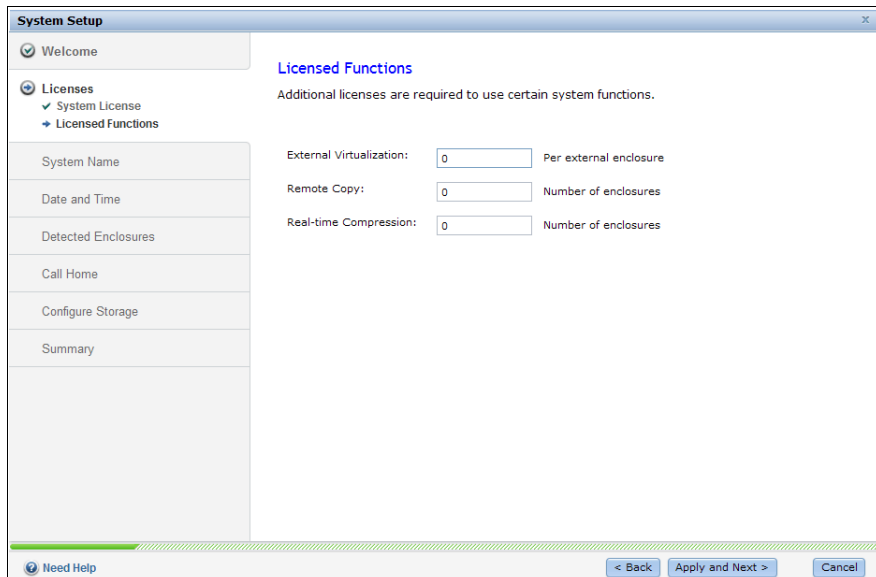

Figure 4-16 Setup wizard - Set additional licenses for functions
3. Optionally, you can type in the number of System licenses needed for use of certain functions and click **Apply and Next** as shown in Figure 4-16. The System Licenses include **External Virtualization Limit**, **Remote-Copy Limit**, and **Real-time Compression Limit**.